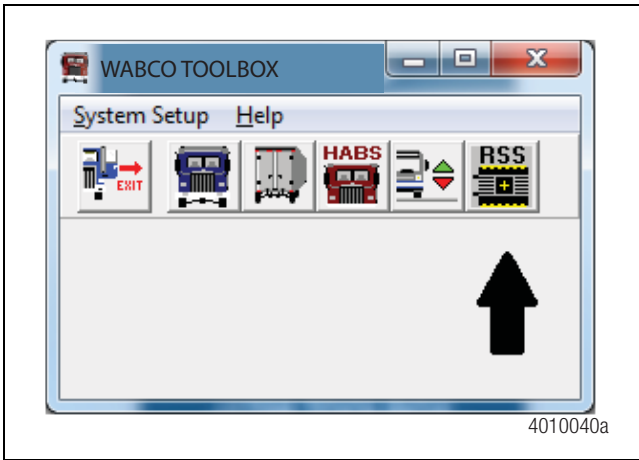

Figure 58
2. Double click on the TOOLBOX™ Software icon on your computer to launch the program. Figure 58.